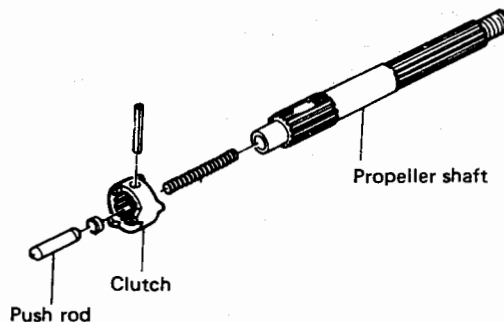

Fig.10.5
2. Use the special tool to remove the clutch pin. (Fig.10.5)